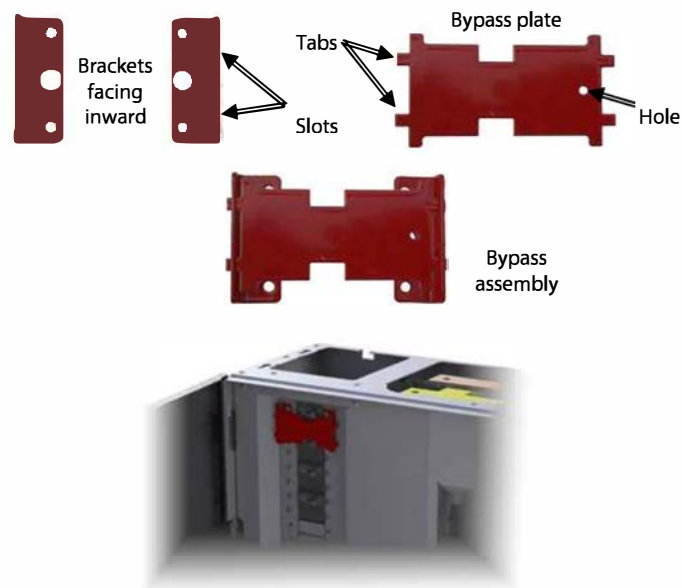

Figure 4 Installing Mechanical Bypass
2. Place the red bypass brackets over the screw holes for the top three circuit breaker poles. Face the brackets inward as shown in Figure 4.